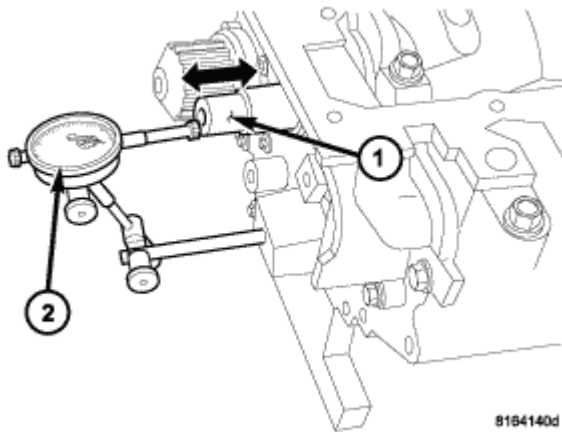

Fig. 180: Checking Crankshaft End Play - Typical
1. Mount a dial indicator (2) to front of engine with the locating probe on nose of crankshaft (1). See **Fig. 180**.